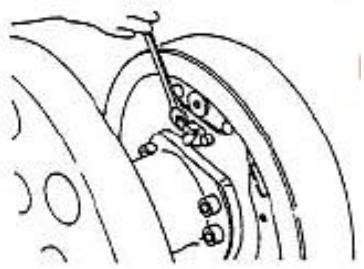

Figure5
(5) Remove the brake pipe from the brake cylinder ,then remove the mounting bolts of the brake cylinder and remove the brake cylinder from the brake base.as figure 5